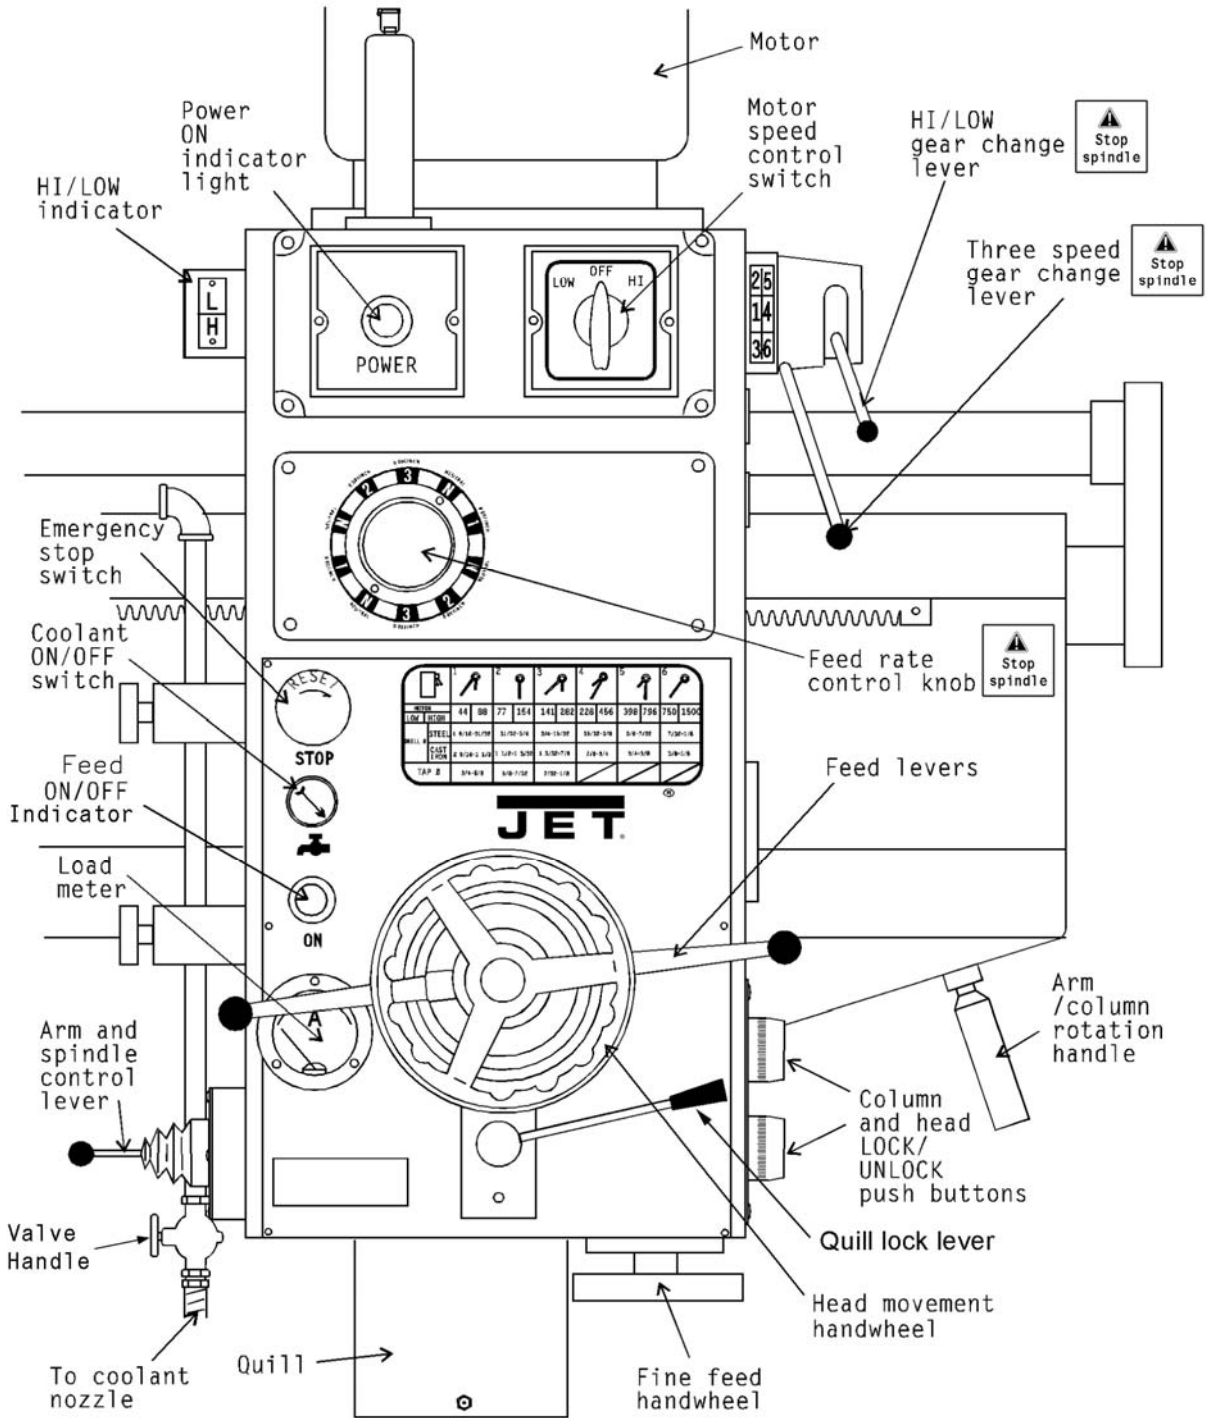

Figure 10
| 12. Drill Head/Gearbox (see Figure 10 for details) | 30. Arm Rail |
5. Turn the coolant switch (See Figure 10) to the ON position.
The buttons which control the locks are located on the right-hand side of the drill head (see Figure 10). Press and hold the UNLOCK button until the arrow (Figure 11) points to “B”. Release the button. The clamping device is now disengaged. When locking, press and hold the LOCK button until the arrow points to “A”. The clamping device is now re-engaged.
2. Raise or lower arm to required height using the arm/spindle control lever (see Figure 10). See also Section 8.24 *Using the control lever*.
2. Turn handwheel to move the drill head along the arm. See Figure 10.
2. Swing the arm using the handle (see Figure 10) to required spindle position.
Spindle speeds are established using the gear change levers on the upper right-hand side of the drill head (See Figure 10). The shorter of the two levers operates a two-speed mechanism which puts the gearbox in either high gear or low gear. A HI/LOW indicator on the upper left hand side of the drill head identifies the selected speed range.
Spindle rotation direction is managed by the arm/spindle control lever on the left hand side of the drill head. See Figure 10.
The fine feed control wheel is located on the underside of the right-hand side of the drill head. See Figure 10. The fine feed control is used as follows: